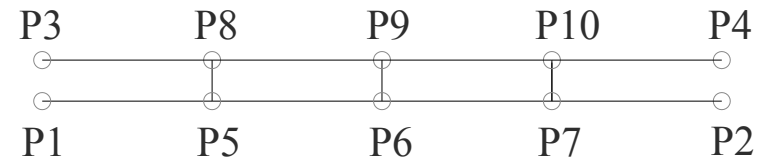

Figure 11. Keypoints and lines
Step 1: Strake line and keypoints, see Figure 11
k,,xy(1,nr1),xy(3,nr1) ! Creates P1 in Figure 11
k,,xy(2,nr1),xy(4,nr1) ! Ccreates P2 in Figure 11
CSYS,4 ! Places local coordinate system in P1, see Figure 11
*do,j,1,num ! Do loop to create stiffener lines, see Figure 11